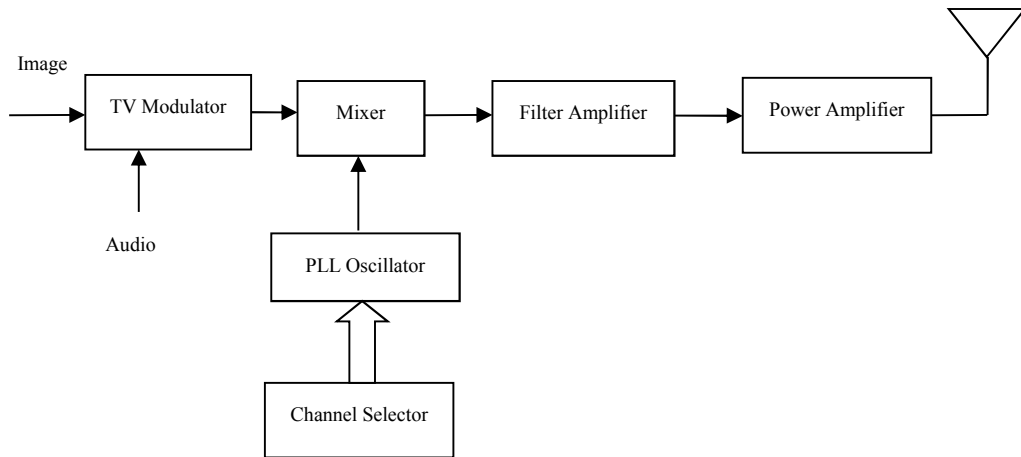

Fig.3 SD3201T Transmission system composition diagram
b) SD3201T Transmission system composition diagram(See Fig.3)